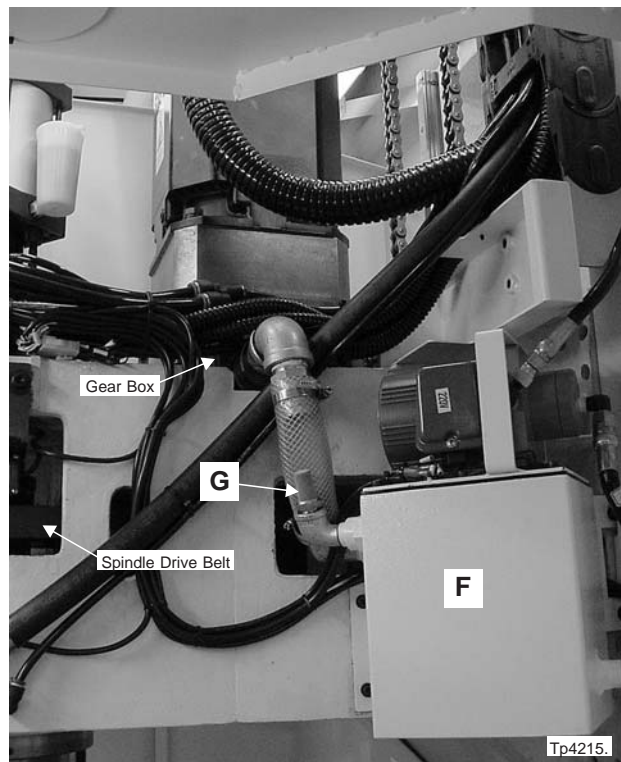

Figure 4.7 - High-Torque Gear Box Tank
4. Open the right side door and locate gear box tank “F”, Figure 4.7.
4. Open the right side door and locate gear box tank "F", Figure 4.7.